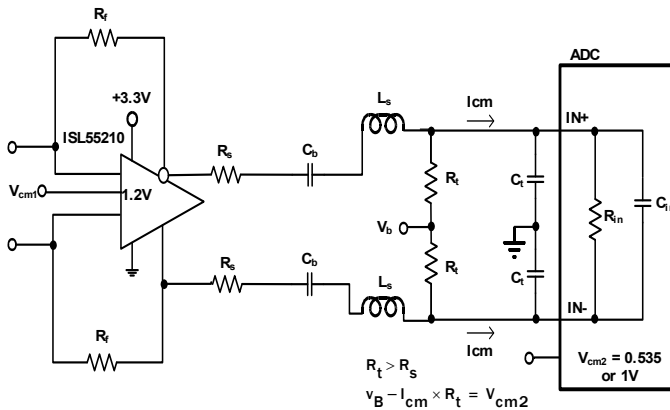
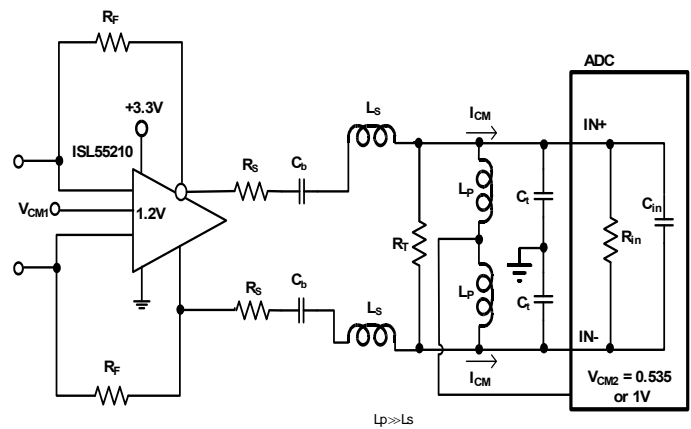

FIGURE 34. AC COUPLED, BROADBAND RLC INTERSTAGE FILTER DESIGN
FIGURE 35. AC COUPLED, HIGHER FREQUENCY RLC FILTER DESIGN
2. AC coupled, higher frequency range interstage filter design. This design replaces the  $R_t$  resistors in Figure 34 with large valued inductors and implements the filter just using shunt resistors at the end of the RLC filter (here, that is just the ADC internal differential  $R_{in}$ ). In this case, the ADC  $V_{CM}$  can be tied to the centerpoint of the bias path inductors (very much like a Bias-T) to provide the common mode voltage and current to the ADC inputs. These bias inductors do limit the low frequency end of the operation where, with 1 $\mu$ H values, operation from 10MHz to 200MHz is supported using the approach of Figure 35.